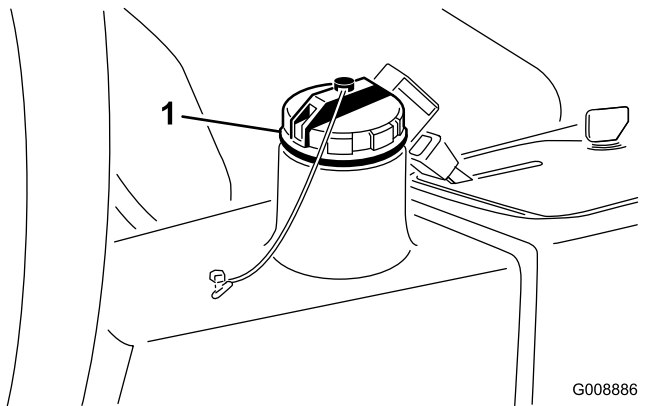

Figure 41
2. Clean the area around the filler neck and cap of the hydraulic-fluid tank (Figure 41) and remove the cap.